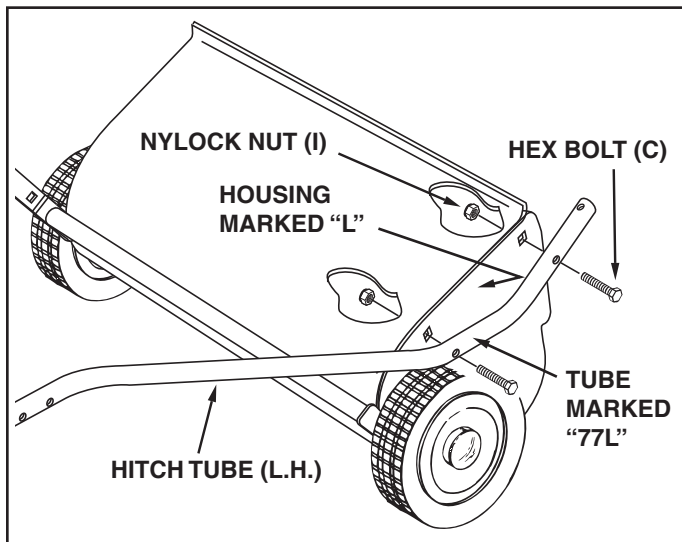

FIGURE 4
STEP 5: (SEE FIGURES 4 AND 5)
- Hold the left hitch tube against the left side of the sweeper so that the "77L" on the tube faces **away** from the sweeper. Attach the hitch tube using two hex bolts (C) and nylock nuts (I). **Do not tighten yet.**